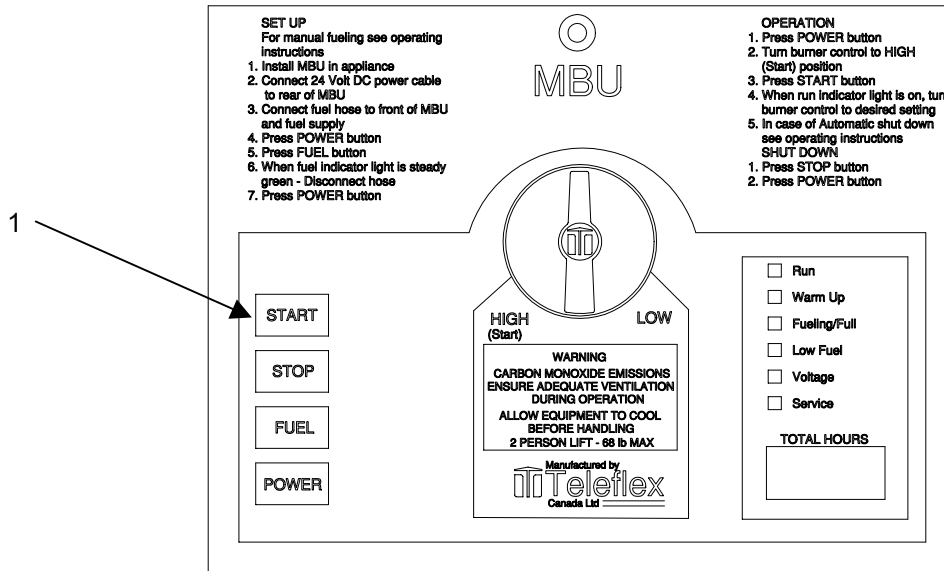

Figure 2. Test the Flame Sensor
1. Attempt to start the MBU by pressing and releasing the start button (**figure 2, item 1**).
3. Press and hold the start button (**figure 2, item 1**). Wait for the MBU to ignite and continue holding the start button for another 20 seconds. If the flame sensor is bad, the burner should shut off immediately when the button is released. The burner will display error message ER01.